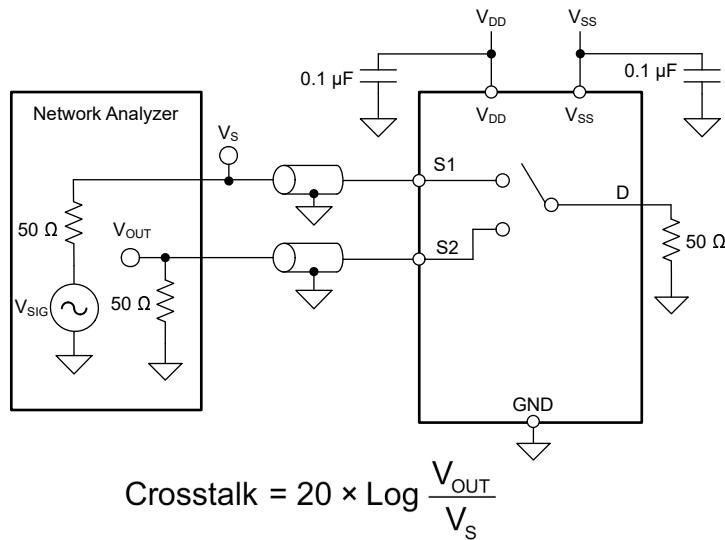

図 6-11. Crosstalk Measurement Setup
Crosstalk is defined as the ratio of the signal at the drain pin (D) of a different channel, when a signal is applied at the source pin (Sx) of an on-channel. 図 6-11 shows the setup used to measure, and the equation used to calculate crosstalk.